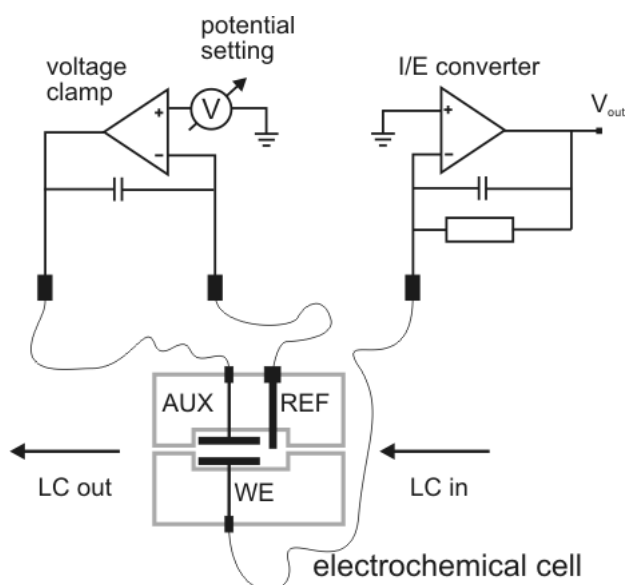

Fig. 3. Schematic representation of an electrochemical cell with a three-electrode configuration.
The electrons are transferred and measured by a very sensitive electronic circuit called the I/E converter (Fig. 3). This circuit is capable of amplifying very small electric currents to a measurable signal.
In the Sencell a three-electrode configuration is used (Fig. 3). The working potential is set between the working electrode (WE) and the auxiliary electrode (AUX). The AUX is kept at a precisely defined reference electrode (REF) potential by means of the so-called voltage clamp. This is an electronic feed back circuit that compensates for polarisation effects at the electrodes.